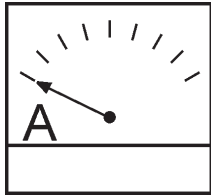

Figure 43. Ammeter (No Load)
7. The ammeter (Figure 43) will indicate **zero amps** with no load applied. When a load is applied, the ammeter will indicate the amount of current that the load is drawing from the generator.